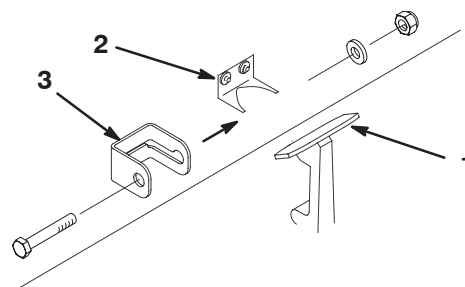

Figure 1
1. Unhook the hood latch from the hood latch bracket (Fig. 1).
2. Slide the hood lock bracket onto the latch (Fig. 1).
3. Hook the latch onto the hood latch bracket (Fig. 1).
4. Insert a bolt (1/4 x 1-1/2 in.) through the hood lock bracket and secure it with a flat washer and locknut (Fig. 1).